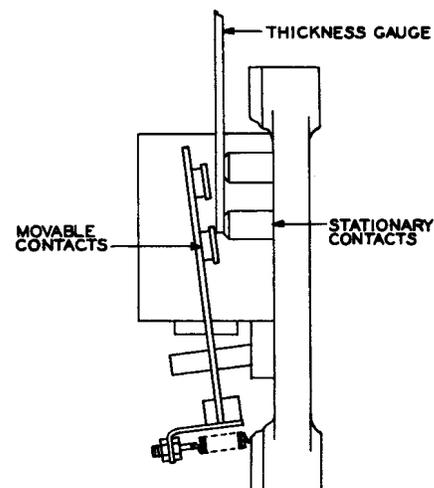

Fig. 5 - Method of Measuring Contact Gap
2.06 Contact Gap: Minimum contact gap for each type of relay shall be as listed in Table A. Use thickness gauge or scale. Where contact gaps on one side of contact spring meet requirements and it is difficult to apply gauge to the contacts on the other side of the spring, the clearance on these contacts may be assumed to be satisfactory. The contact gap should be measured by inserting the thickness gauge between the movable and stationary contacts. On B, D, E, L, KS-5635, KS-8854, and KS-15601 relays, the gauge shall pass between the contacts. On A, C, S, SC, and SS relays, the gauge shall be placed as shown in Fig. 5 and shall extend across at least 3/4 of the diameter of the stationary contact nearer the armature hinge before touching the movable contact.